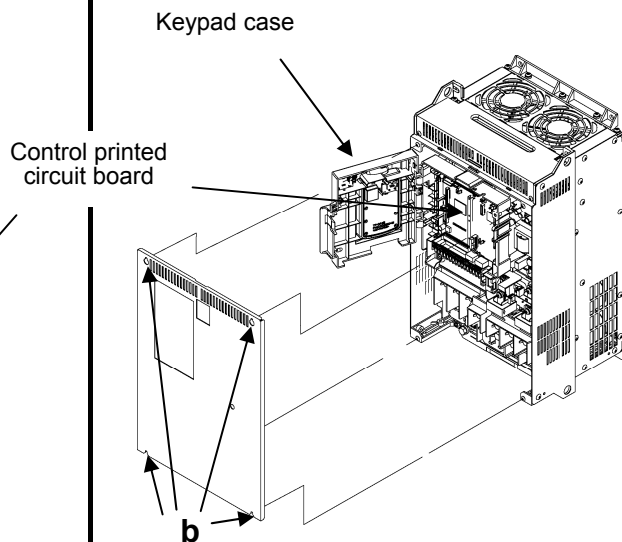

Figure 6.1.3 Removing the Front Cover
- (1) As shown in Figure 6.1.3, remove the mounting screws on the front cover at location (b) (the number of screws varies with the inverter's capacity) and remove the front cover.
- (2) Open the keypad case.